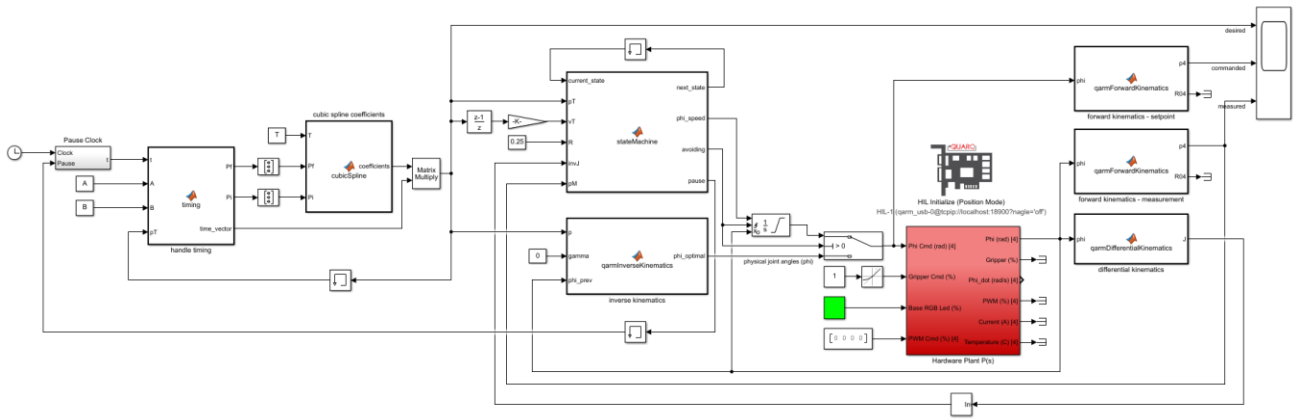

Figure 3: Simulink model that implements a singularity avoidance algorithm using a finite state machine
1. Open the Simulink model SingularityAvoidance.slx (Figure 3).
- Open the `stateMachine` MATLAB function. Using the Application Guide as a guide, complete the script to implement the finite state machine shown in Figure 3. You are required to complete the State Transition and State Action sections for states 1, 2, 3, and 4, namely assuming the appropriate values to the following variables: `next_state`, `phi_speed`, and `avoiding`. Recall that the state machine will determine if the target position (`pT`) falls within the singularity avoidance region; if it does an alternative trajectory along the surface of the singularity avoidance cylinder is commanded to the end-effector otherwise the original cubic spline trajectory (`P`) is commanded. In the function, by setting the variable `avoiding` to 1, you will force the end effector to follow the perimeter of the avoidance region, otherwise setting it to 0 commands the linear trajectory.